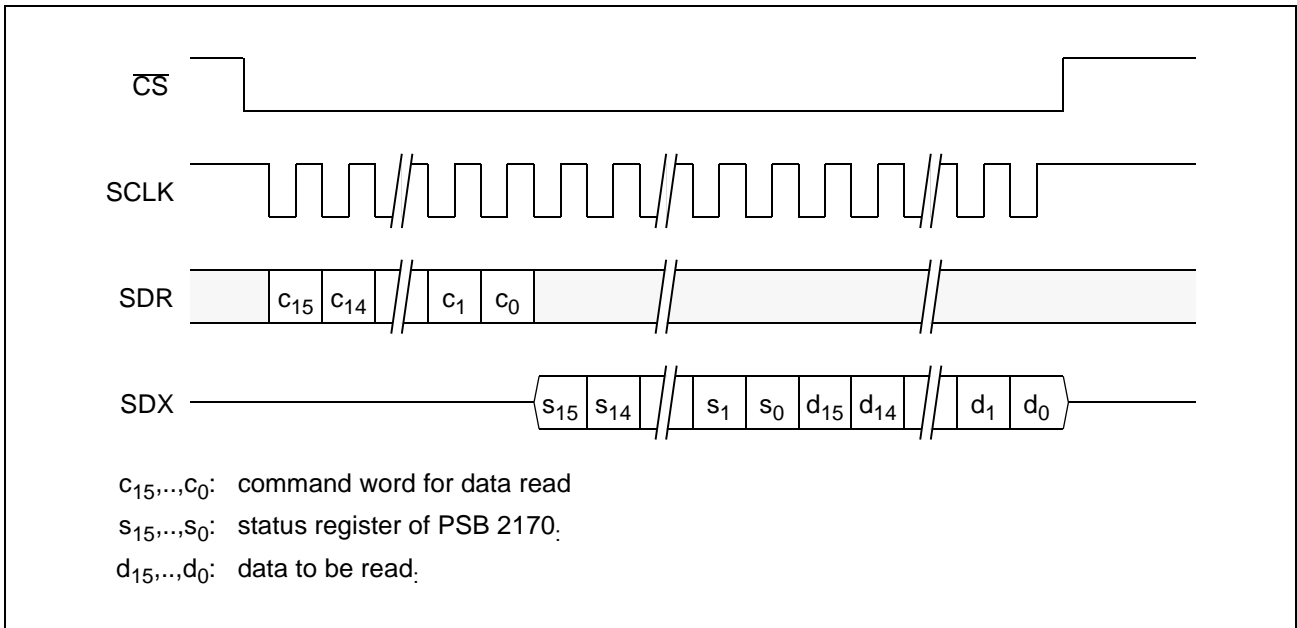

Figure 56 Data Read Access
*Note: Reading any register except the status register or a hardware configuration register requires at least two accesses. The first access is a register read command (figure 59). With this access the register address is transferred to the. After that access data read accesses (figure 56) must be executed. The first data read access with STATUS:RDY=1 delivers the value of the register.*